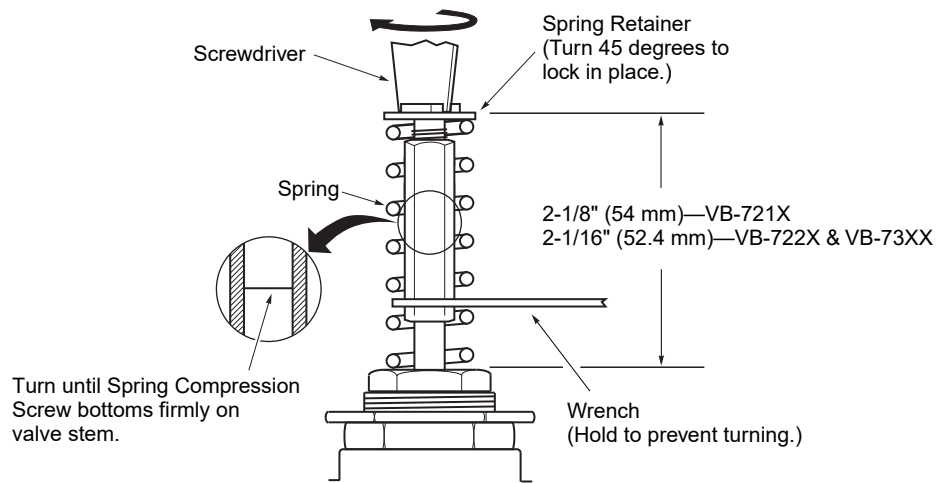

Figure-3 Installation of Linkage Spring.
7. Tighten the spring compression screw. To establish proper linkage height, run the spring compression screw down until the screw end bottoms firmly on the stem top (Figure-3).
8. Confirm the stem height setting (Figure-3):